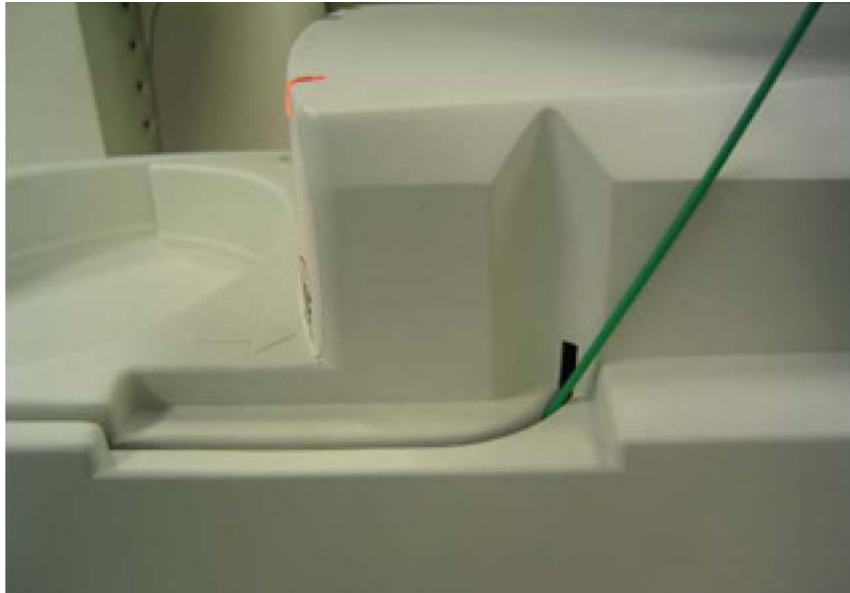

Fig. 9
1. Blowing the air away from the film entrance. (Fig. 9)